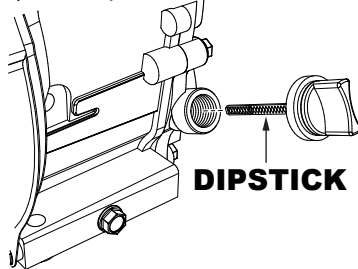

Figure 12. Engine Oil Dipstick Removal
2. Remove the filler dipstick from the engine oil filler hole (Figure 12) and wipe clean.